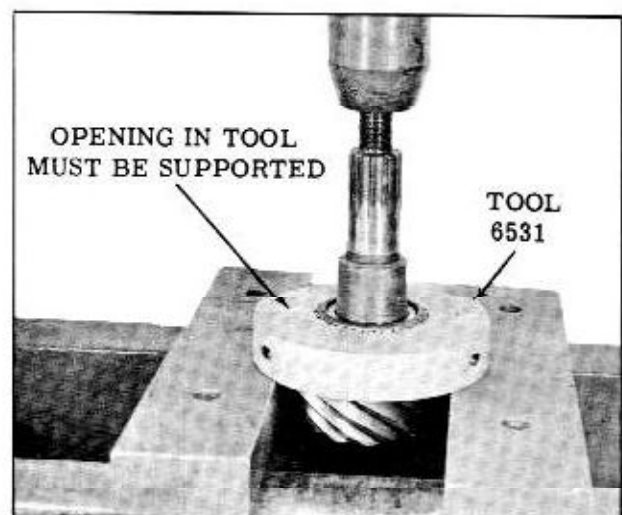

Fig. 6-25 Removing Rear Bearing
10. If the rear pinion bearing or shims are to be replaced, use Tool J-6531 placed in an arbor press as shown in Fig. 6-25 to press the rear bearing inner race and roller assembly off the pinion shaft.